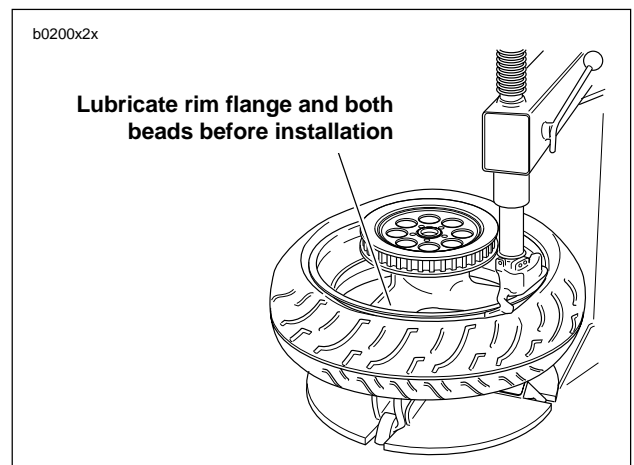

Figure 2-13. Starting Bead on Rim
4. See Figure 2-13. Starting at the valve stem, start first bead into the rim well using a bead breaker machine. If no machine is available, work bead on as far as possible by hand. Use a tire tool to pry the remaining bead over rim flange.